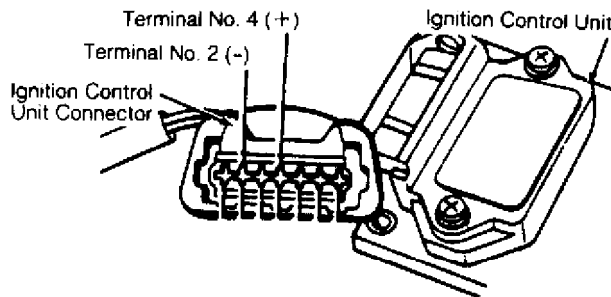

Fig. 10: Identifying Typical Ignition Control Unit Connector
1) Perform SPARK TEST in F - BASIC TESTING article in the ENGINE PERFORMANCE Section. If secondary spark is present, ignition control unit is okay. If secondary spark is not present, turn ignition off. Disconnect ignition control unit wire harness connector. Turn ignition on. Using a voltmeter, measure voltage between terminals No. 2 (negative) and No. 4 (positive) of connector. See Fig. 10.